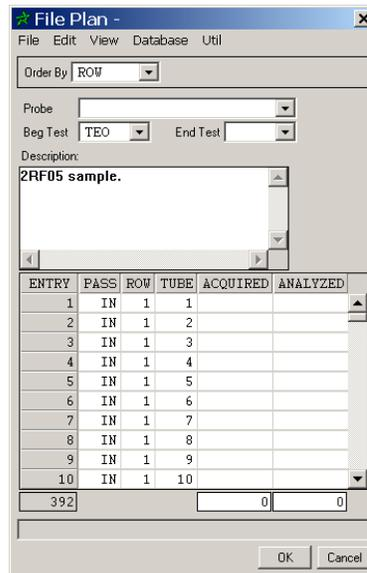

Figure 9-13. Plan Dialog with Sample Plan Loaded
STEP 7: Select *Edit | Load Symbols*. The *Plan* dialog should now appear as shown in Figure 9-13.